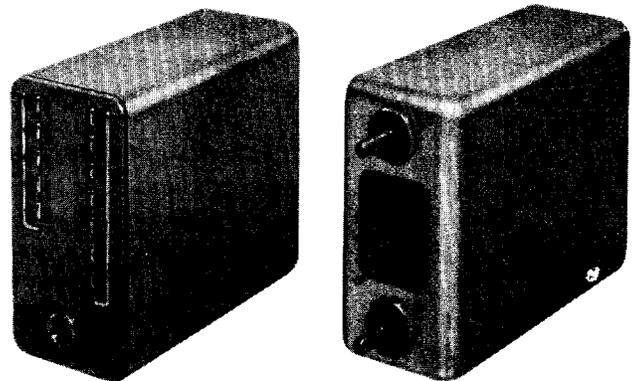

Fig. 1—837F Network
2.01 The 837F network fits into an aluminum can approximately 1.7 inches wide, 3.3 inches high, and 4.3 inches deep. The network is stud-mounted on a shelf near where the cable pairs are brought out to the panel wiring boards. Connections to the cable and line circuits are made at four terminals which extend from the rear of the networks. The front of the network incorporates seven screw switches for LBOC (line build-out capacitance) settings and a 239C jack for test purposes and, in addition, has five screw switches for DBOC settings and a pair of pin jacks. The pin jacks are provided so that external DBOC may be used during lineup. A photograph of the network is shown in Fig. 1.